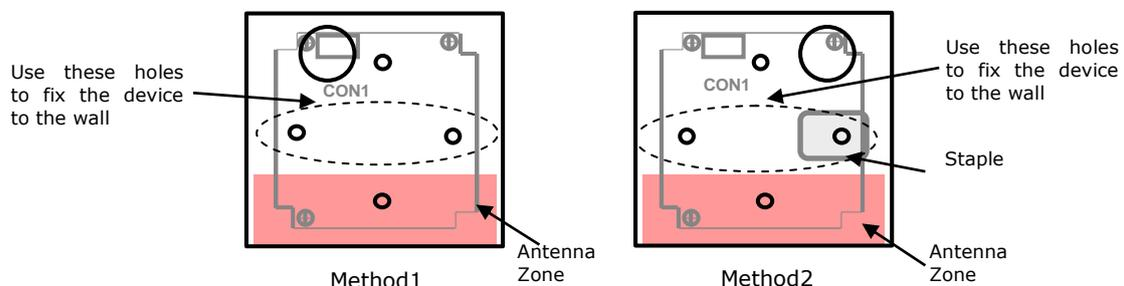
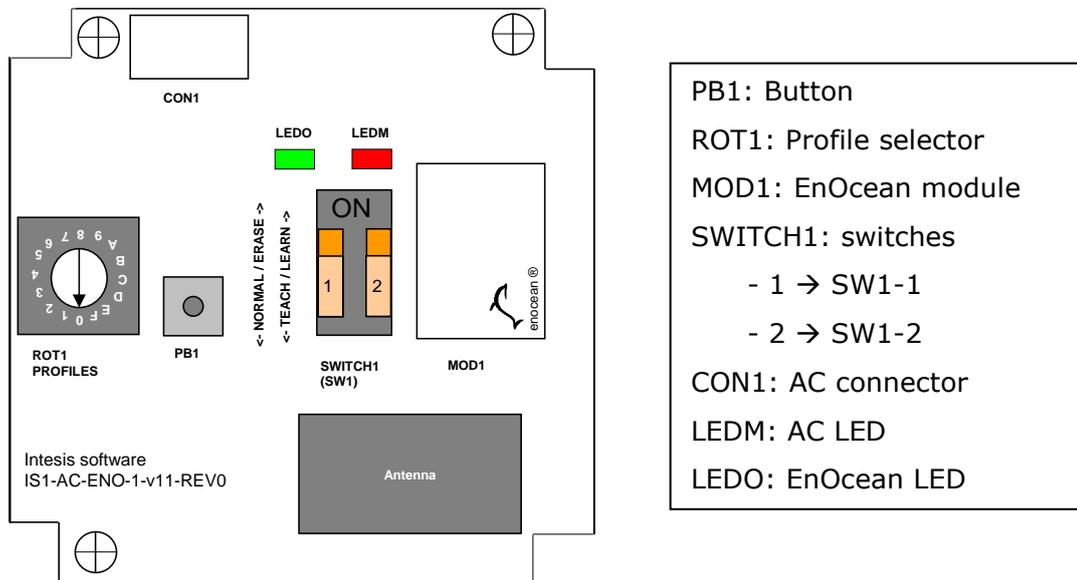

Figure 2.2 Connection methods
Figure 3.1 Device diagram
To connect the device to the AC, the recommended methods are the ones in Figure 2.2
- Method1: The lid hole is placed above CON1 (Figure 2.2 or Figure 3.1)
Important: The cable should not be placed on top or the antenna zone (area marked in Figure 2.2) as the performance of the device might be affected. For this same reason never use a metallic screw in the subsection hole on top of this antenna zone.
The ME-AC-ENO-1 / 1C (Figure 3.1) has two switches, a button and a profile selector to execute the Learning and Teach-in procedures from the EnOcean technology (explained in Table 3.1 and the following sections)
To **execute** the **Learning** procedure the next steps need to be followed. References to device components refer to Figure 3.1:
Table 3.4 Signals linked to ROT1 (Figure 3.1)
To delete one or all the devices linked in one reception profile (Table 3.2) the device needs to be in ERASING mode. To do so follow the following lines (the references to device components are specified in Figure 3.1):
A device can break down or be lost, and therefore the above mentioned delete procedure would not be possible to be executed. For that reason all the devices in one profile can be deleted. To do so follow the instructions (the references to device components are specified in Figure 3.1):